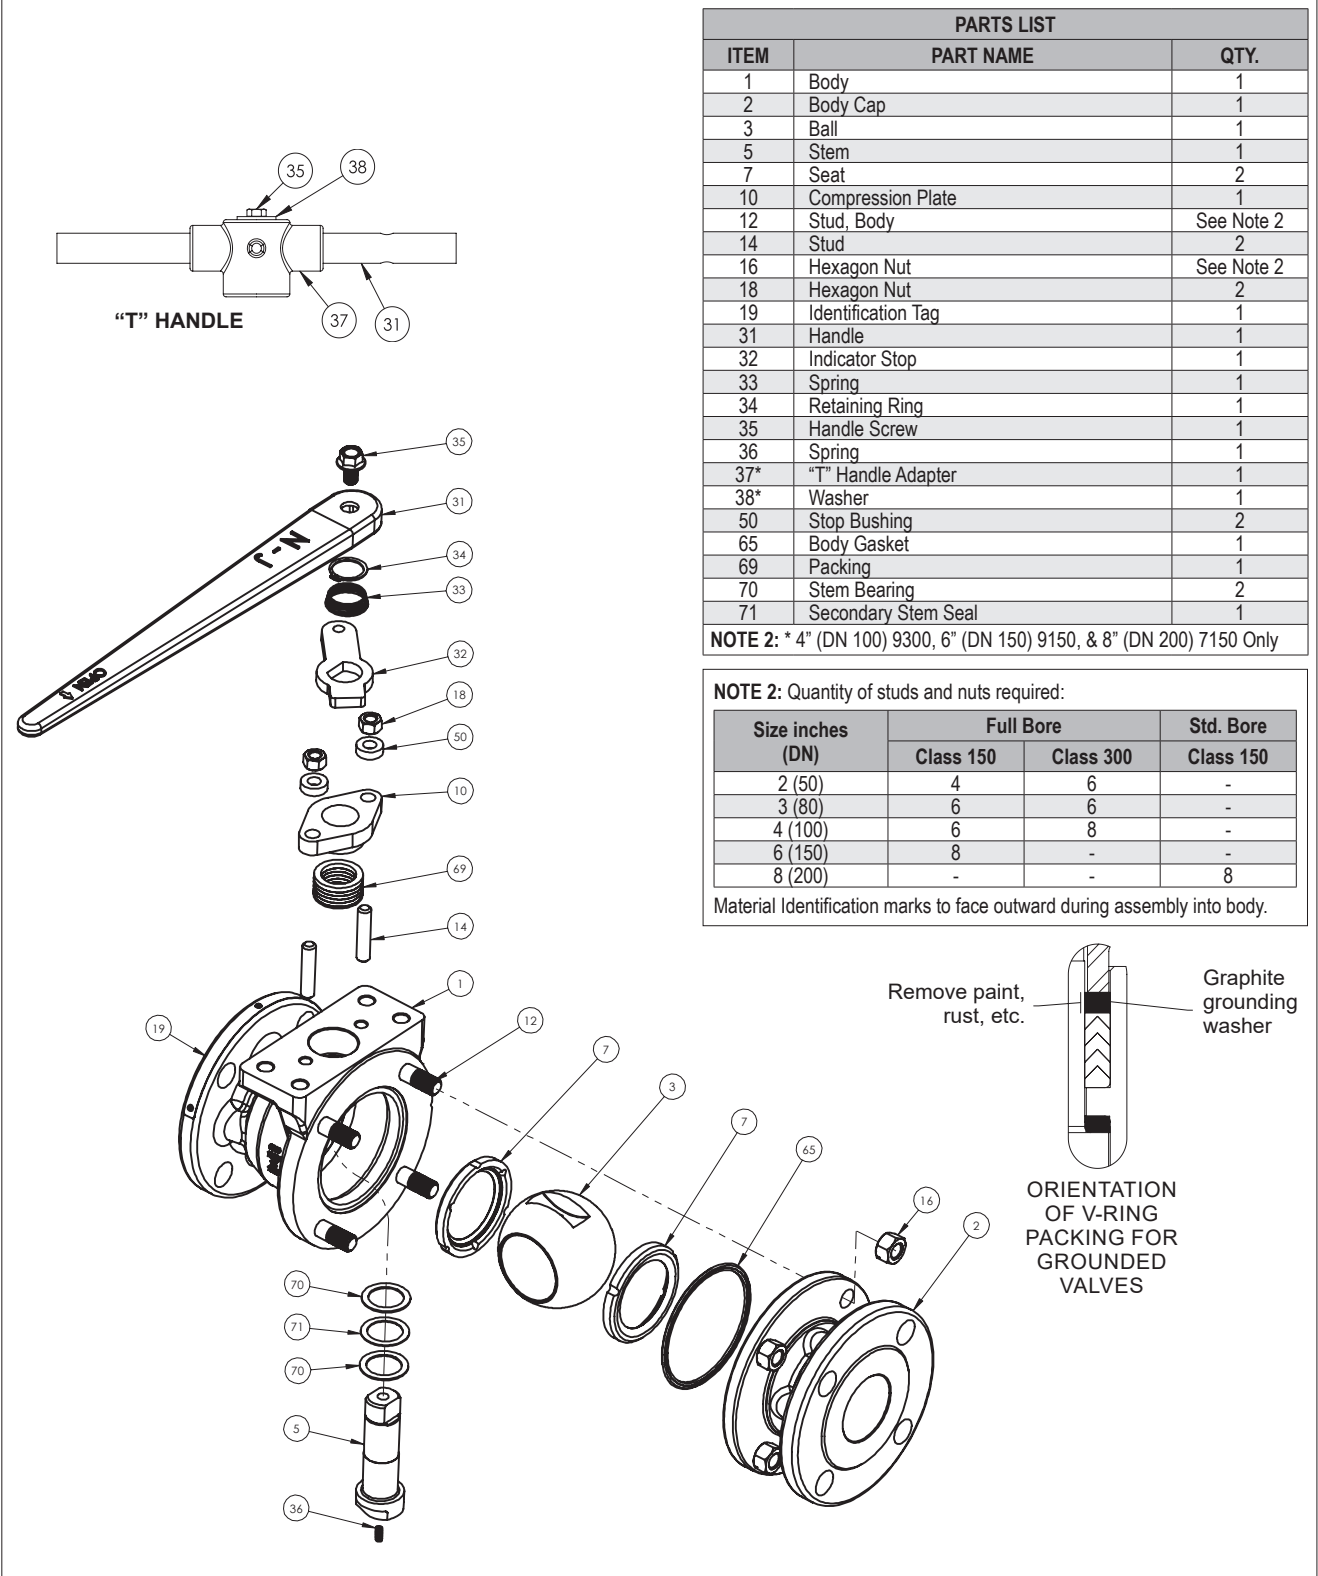

Figure 9.
- c. From **Figure 9**, the ballooned part number, part name and quantity required.
8. With a wire brush, clean studs (14) and stud nuts (18) of foreign material, such as paint, thread locker, grime and commodity. Inspect the threads for damage or defects with appropriate ring or plug gauge. Repair any out-of-tolerance threads, or replace in-kind. Check that nut can be run up and down entire usable portion of the threads. (See **Figure 9**)
9. Place compression plate (10) over studs (14). Place two stop bushings (50) over each bonnet stud.
10. Place a stud nut (18) on each stud (14) and tighten nuts alternately so that the compression plate (10) remains parallel with the body. Tighten the stud nuts in accordance with the torque values in **Table 1**.
11. With a wire brush, clean studs (12) and stud nuts (16) of foreign material, such as paint, thread locker, grime and commodity. Inspect the threads for damage or defects with appropriate ring or plug gauge. Repair any out-of-tolerance threads, or replace in-kind. Check that nut can be run up and down entire usable portion of the threads. (See **Figure 9**)
2. On valves with handles, remove the handle, retaining ring, spring, indicator stop and any accessories that may be attached to the bonnet surface. DO NOT loosen the bonnet stud nuts (18), see (Figure 9).